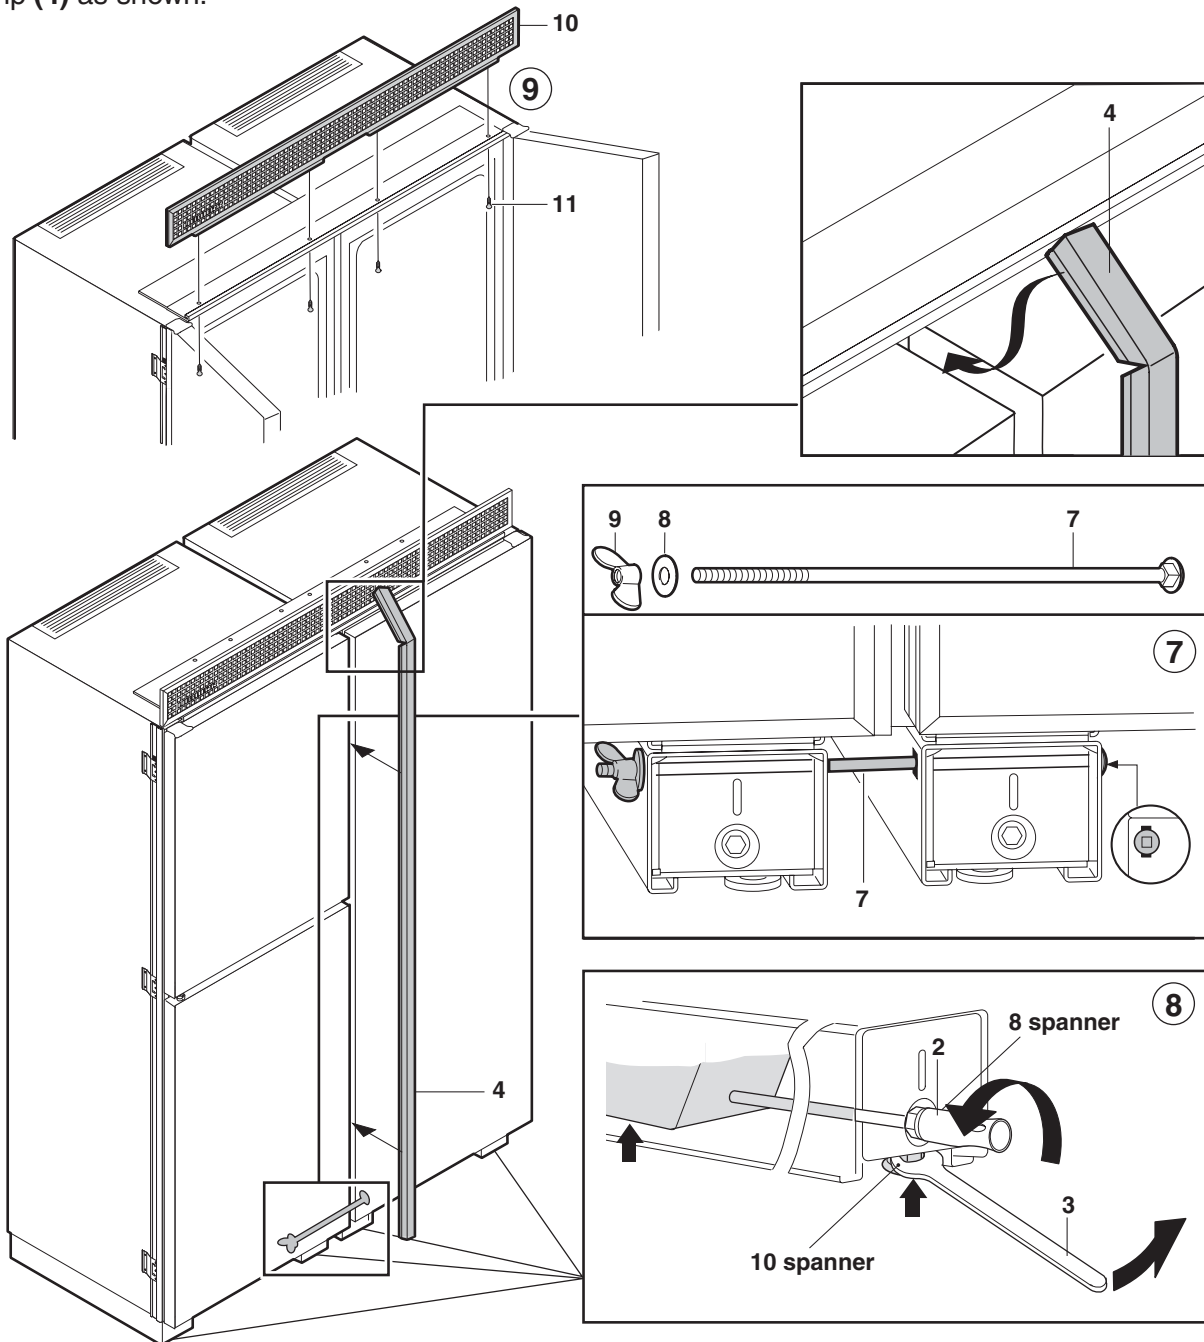

Figure 27
- Figure 27:** Push the long carriage bolt M5x260 (7) through the leveling wheels as shown. Fit in a washer (8). Screw on the wing nut (9) and tighten it *manually*. Do not overtighten.
- Secure the ventilation grille (10) to the appliance with screws (11). Push in the sealing strip (4) as shown.